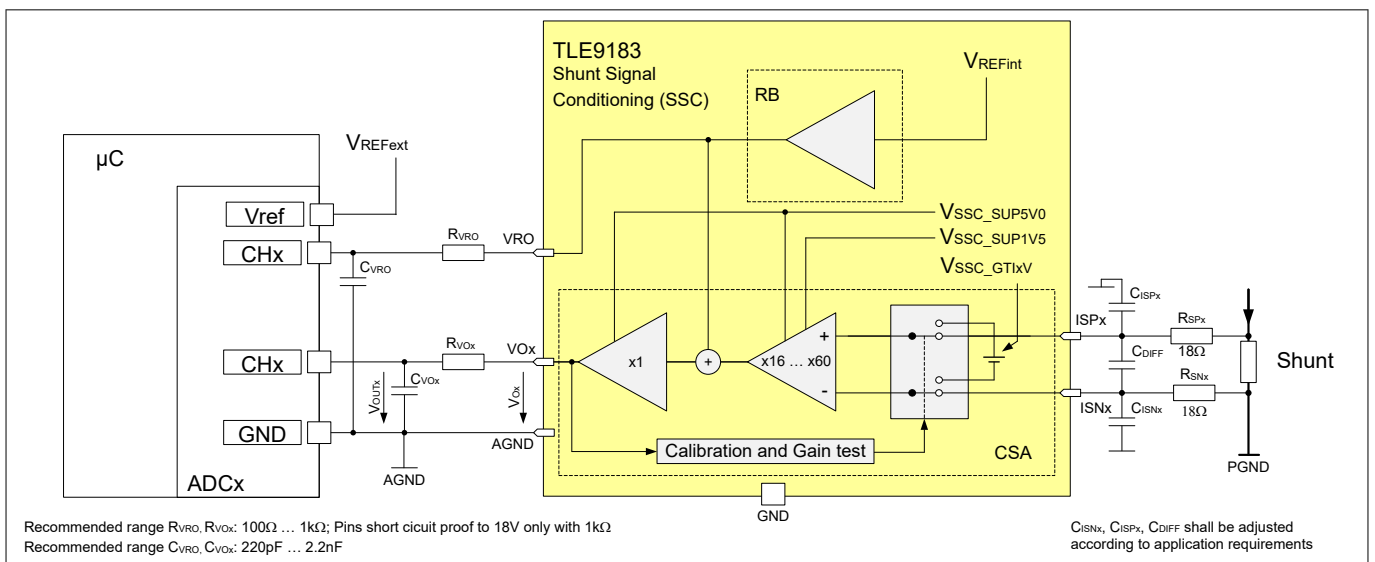

Figure 13 Simplified Block- and Application Diagram of the Shunt Signal Conditioning
The shunt signal conditioning (SSC) incorporates 3 precise current sense amplifiers (CSAs) to amplify the voltage drop at the shunt resistors caused by the motor currents and a voltage reference output buffer (RB), see Figure 13.